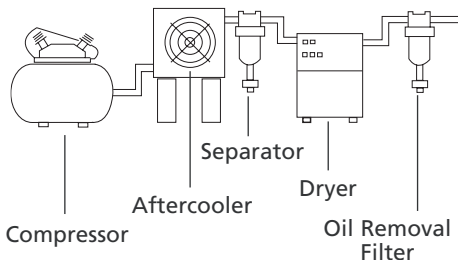

Figure 1 - Typical Placement
1. For typical placement in a compressed air system, see Figure 1.